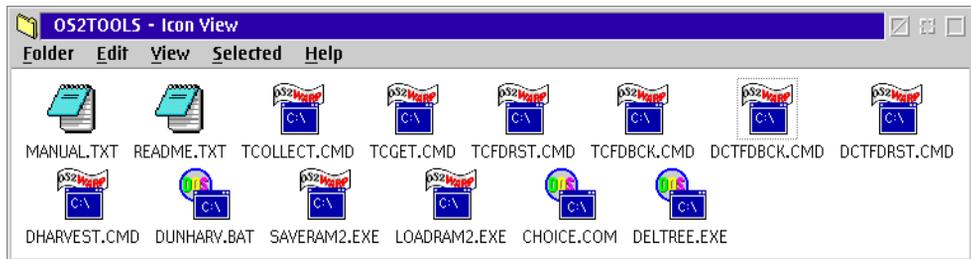

Figure 60 OS2TOOLS - Icon View
4. At the *Drive C - Tree View*, scroll down (if required) and double-click the *OS2TOOLS* folder. The *OS2TOOLS - Icon View* displays (Figure 60).